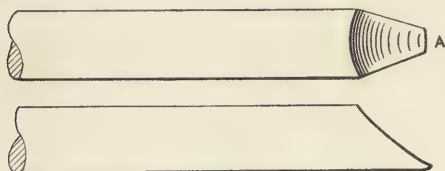

Fig.45
**Scarf Weld.**—If about to make a scarf weld with round stock, the scarf should be made narrow, as at *A*, Fig. 45, which shows the top and side view of the same piece. Some smiths make the scarf wider than the bar to be welded, which is not a correct method, since in striking on the edge of the weld the thin part of the scarf will pucker and cool so quickly that another heat is necessary. Then the dirt will get in and a bad weld